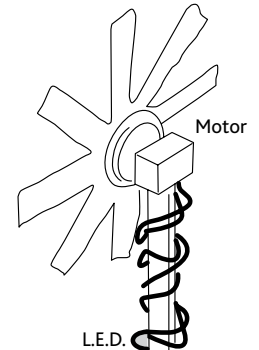

Figure 6: Assembled windmill
7. Set up a support rod for the motor-windmill structure and connect the LED as shown in the Figure 6.